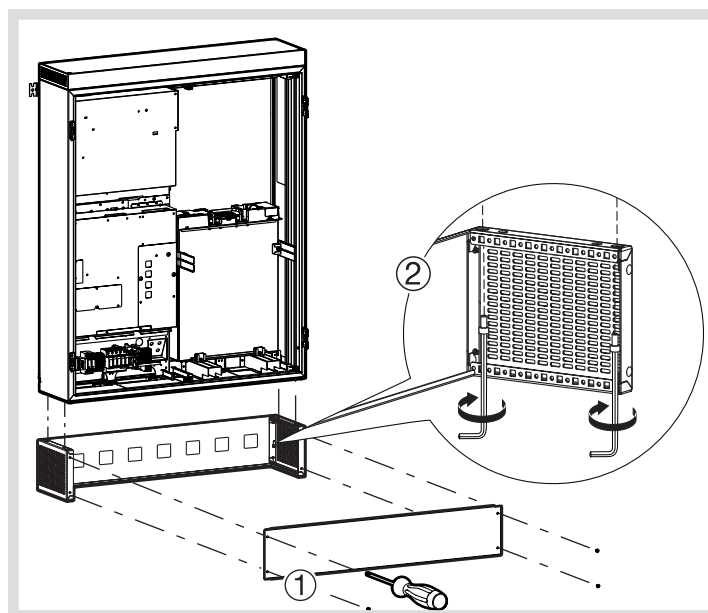

Figure 16: Base assembly
- Fix the closed base front plate, both base sides and perforated base rear plate to the base with the screws provided (Figure 16).
- Assemble the energy storage system on the base (Figure 16).